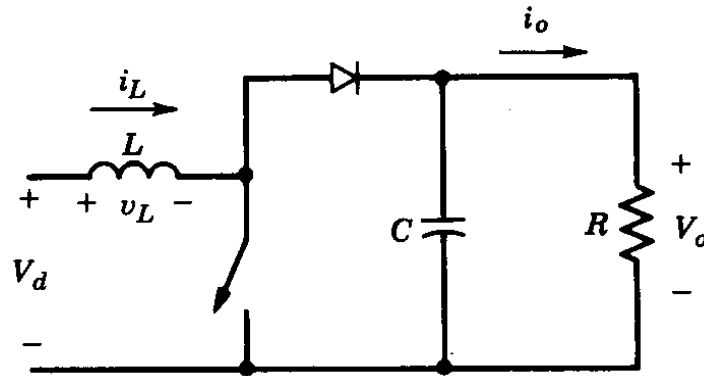

Figure 2 Boost converter
- 1.3 (5) What will happen if  $V_d$  is increased above 200V?
2. Figure 2 shows a boost converter used in the Toyota Prius hybrid electric vehicle for stepping up the battery voltage from 150-250 V to 500 V. The converter's switching frequency is  $f_s = 20\text{kHz}$ .